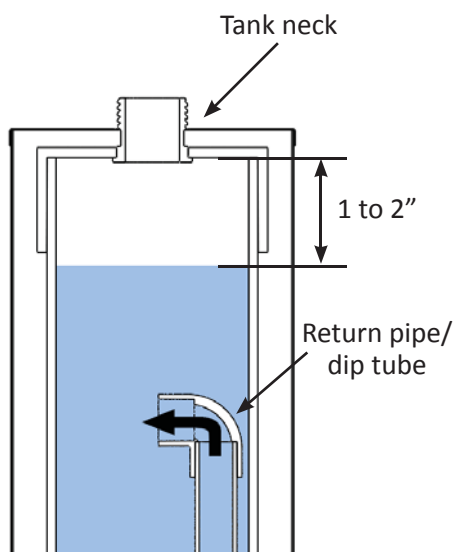

Figure 9: Fluid level of the NP tank (blue shading)
7. Fill the NP Series flow center reservoir with clean, debris free loop fluid. This can be the same pre-mixed fluid that remains in the flush cart after flushing and filling the loop. The tank should be filled to about 1"-2" below the bottom of the tank's neck. Figure 9 shows a cross section of the NP flow center indicating the approximate fluid level.
4. Start flow center pump(s) and allow system to operate for several minutes. Remove tank's cap and check fluid level adding additional loop fluid, if necessary, while pump(s) are running. Fluid should be about 2" below the bottom of the tank's neck as shown in Figure 9. Replace the cap and tighten until there is an audible "click" similar to an automobile's gas cap.